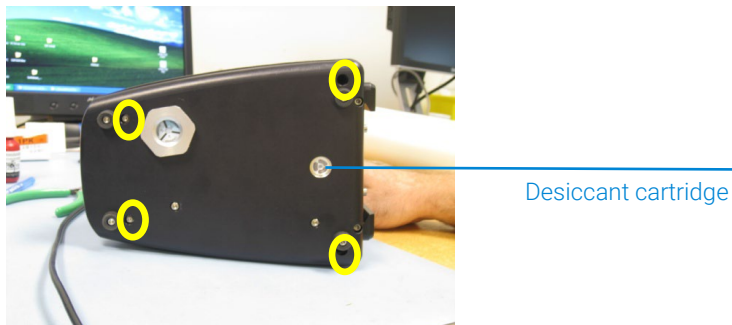

Figure 24. Bottom of Cary 630 FTIR, showing screws to remove (circled).
- 1 Tilt the spectrometer on its side to expose the bottom plate (see Figure 24). There are two visible screws; and two deep, recessed screws securing the instrument. Using the 3/32 ball driver, remove all four screws.